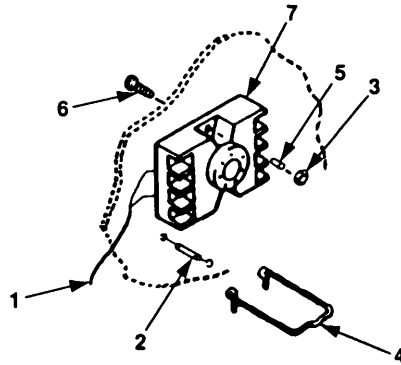

Figure 4-48. Safety Relay (K1) Base Replacement.
- a. Tag wires (figure 4-48, 1) and diode (2) on terminals 2 and 7.
- b. Remove terminal screws, wires (1) and diode (2) from terminals 2 and 7.